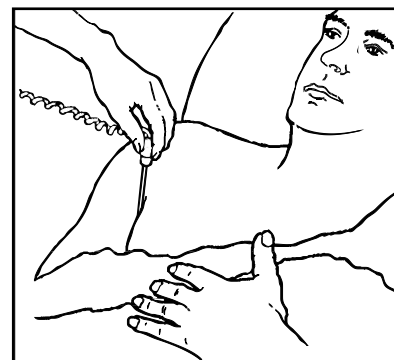

Figure 8 - Axillary Temperature Measurement
2. Place probe in patient's axilla, making sure the tip of the probe is in contact with the skin and positioned as close as possible to the axillary artery with the patient's arm held close to their side (see Figure 8). The 26.7°C (80.0°F) will be replaced with the probe tip temperature as the probe warms up.